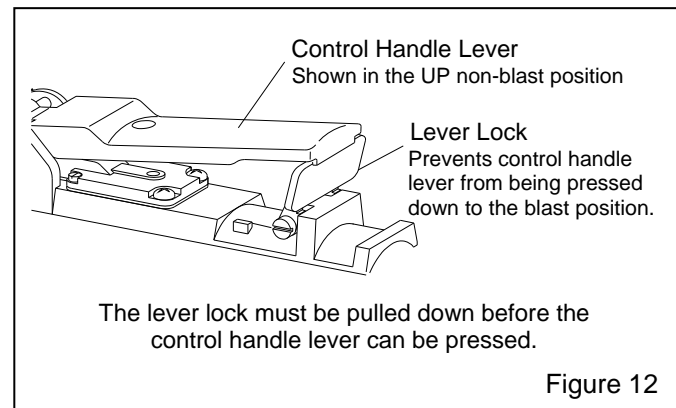

Figure 12
**3.2.11** Make sure the remote control handle lever is in the up (no blast) position, as shown in Figure 12 and that the handle lever and safety lock move freely.